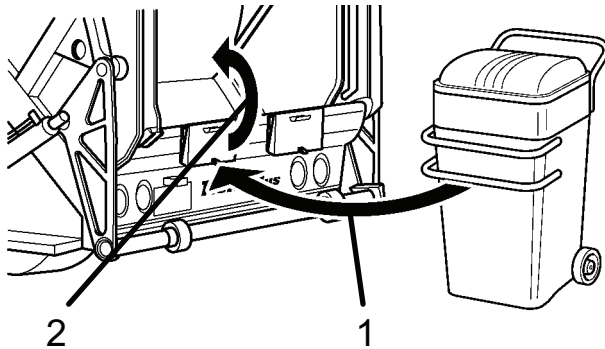

Figure 23
- b. Latch the cart onto the cart tipper (Figure 23, Item 1).
- c. Pull the cart tipper dump lever to tip the cart and dump refuse into the hopper (Figure 23, Item 2).